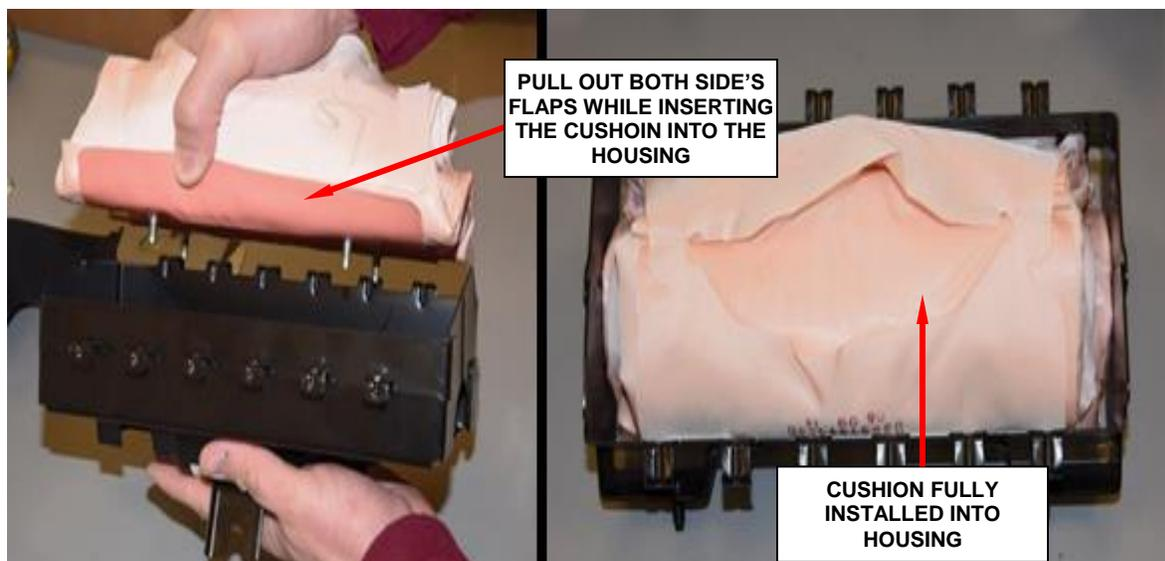

Figure 109 - Side Flaps Must Be Held Out
j. Insert the cushion, pulling out both side flaps (Figure 109).